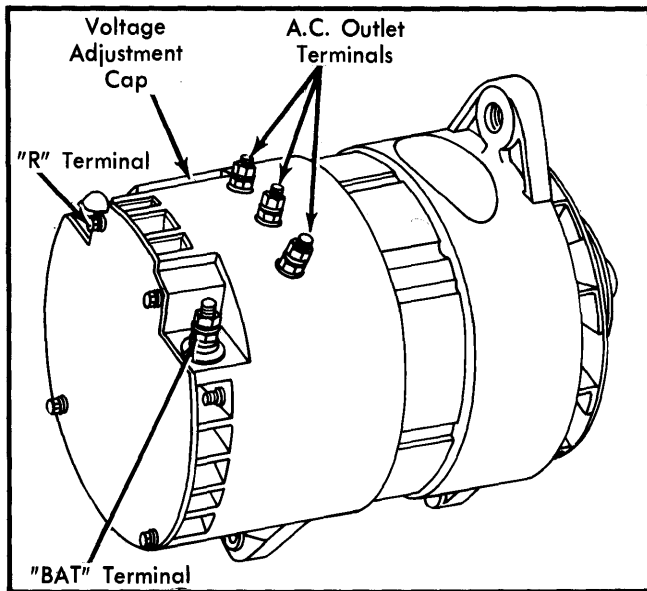

Fig. 6 Identification of Delcotron Terminal Locations (100 Amp. Heavy-Duty Alternator)
1) Connect a voltmeter from "BAT" terminal on integral charging system to ground. See Fig. 6. A zero reading indicates an open between voltmeter connection and battery. If fault is not due to an open, disconnect positive battery cable.